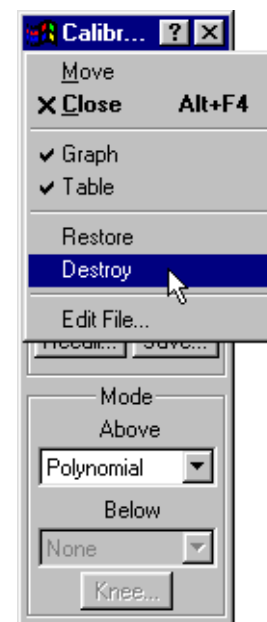

Figure 45.
5. On the Efficiency Calibration Sidebar, click on the icon in the upper left of the title bar to open the *control menu*, as illustrated in Fig. 45, then select **Destroy**. The Efficiency Graph